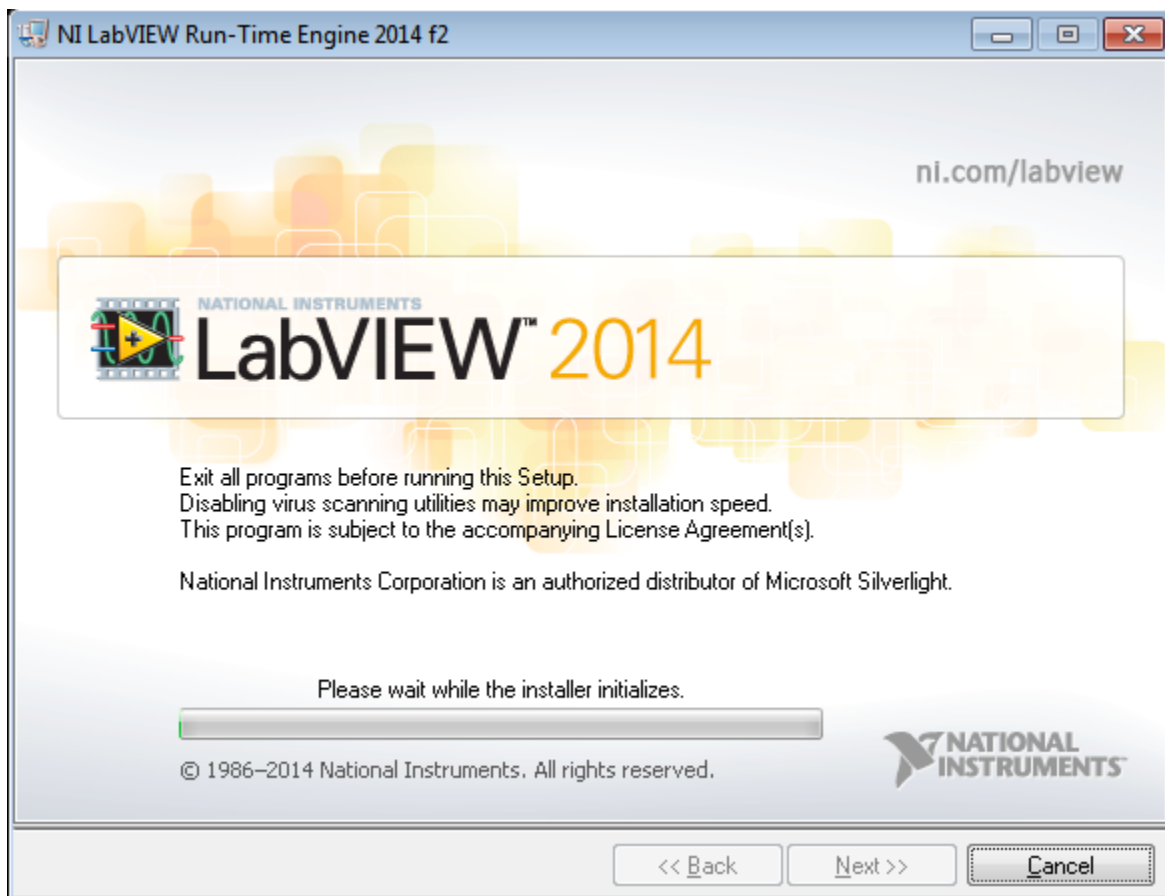

Figure 11. LabVIEW RTE Installation Initialization
11. A Screen appears as shown in Figure 11. It initializes the LabVIEW RTE Installation.